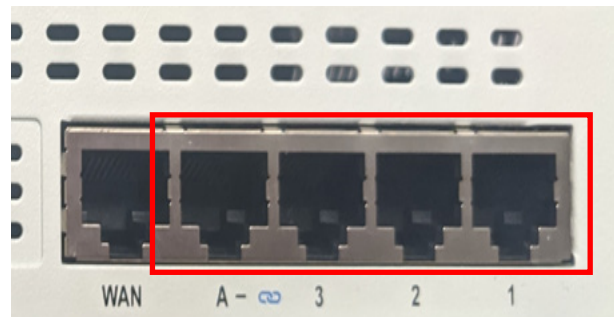

Figure 2
6. Connect a CAT5e cable to your laptop and the other end to one of the 4 LAN ports on the FG-40F Fortinet Router. We recommend using port 1 (Figure 2)